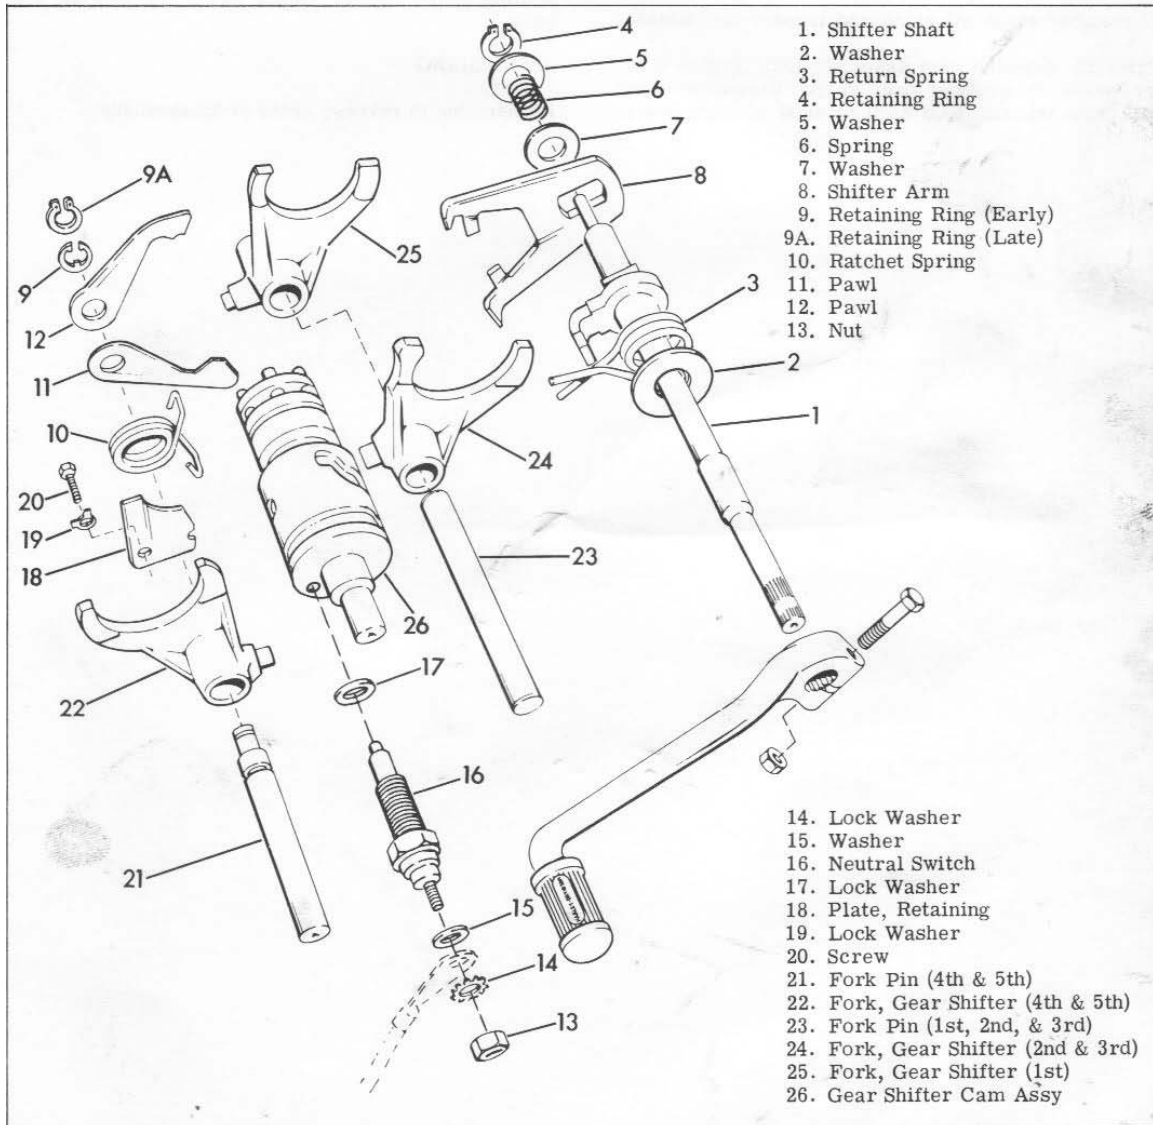
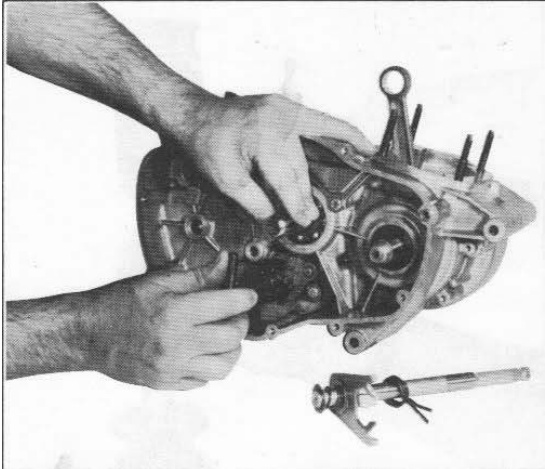

Figure 4.12. Shifter Parts
Figure 4.15. Checking Transmission Operation
Pull out shifter shaft (1), Figure 4.12, with parts attached from right crankcase. Remove retaining ring (4) from groove and slide remaining parts off shaft. Slide return spring (3) off other end of shaft.
Carefully examine cam assembly (26), Figure 4.12, for worn or grooved cam slots. Excessive wear will make transmission hard to shift through gears.
Reinstall following shifter parts so gearing can be given preliminary check before closing crankcase. Referring to Figure 4.12, these parts are (18) through (26). With these parts in place, tool, Part No. 97359-74P, can be used as shown in Figure 4.15. With tool placed on cam assembly (26), Figure 4.12, as shown, rotate cam assembly through all gear po-